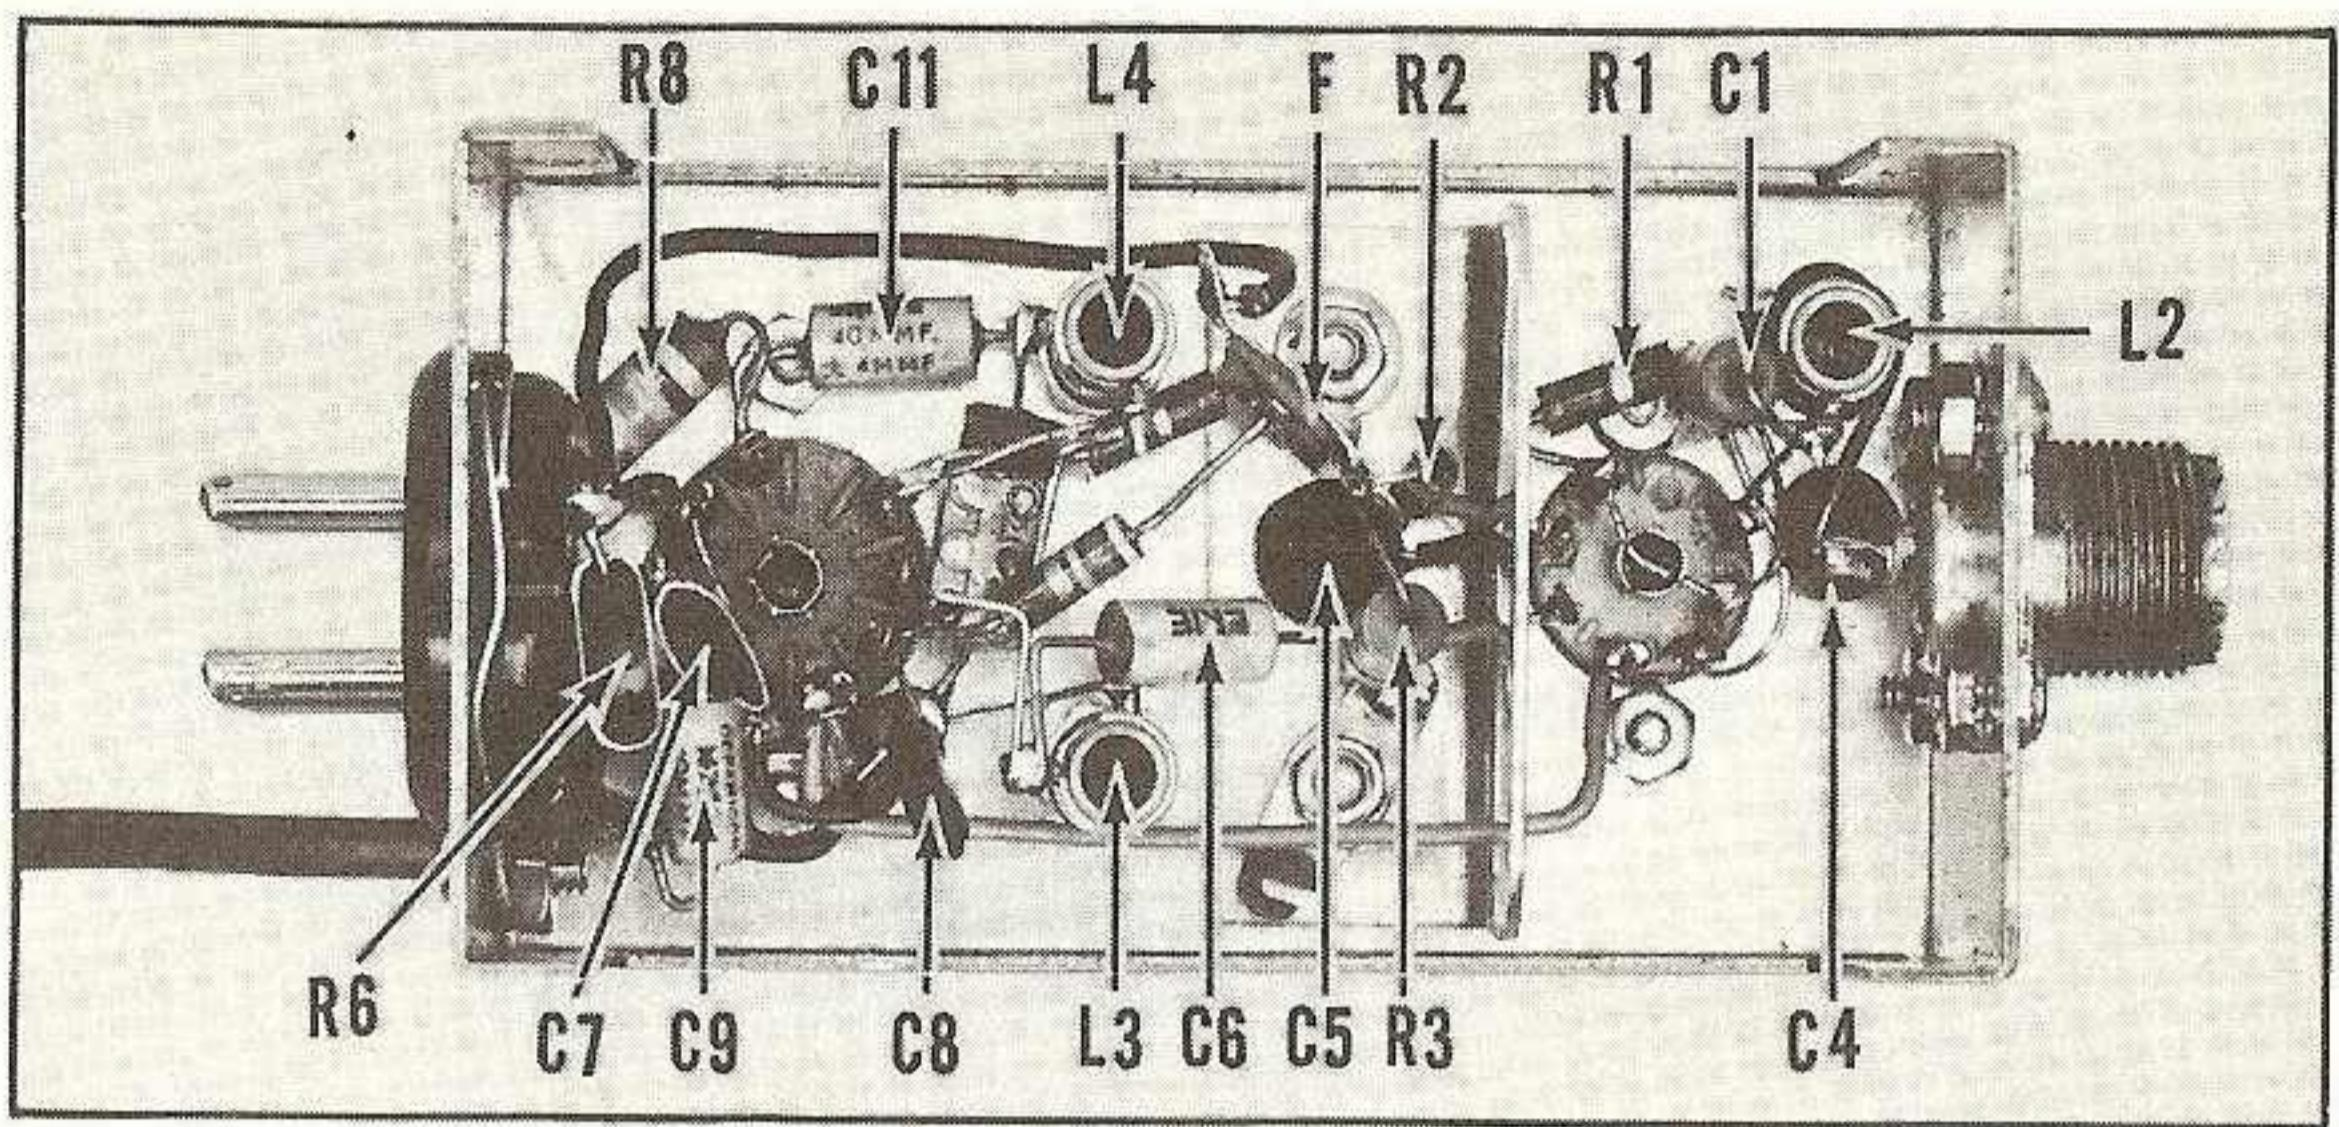

Fig. 6 Under-chassis view of converter, showing placement of major components.
- () Cut a shield plate from a piece of thin brass or aluminum as shown in Figure 5. Mounting holes K and L in the shield should match holes F and G of the chassis. Position the flange of the shield as shown in Figure 6. Mount the shield with 6-32 screws.
- () Wind coils (L3) and (L4) from coil table data. Mount (L3) in socket hole D, and (L4) in E. Align coil terminals towards socket (C).